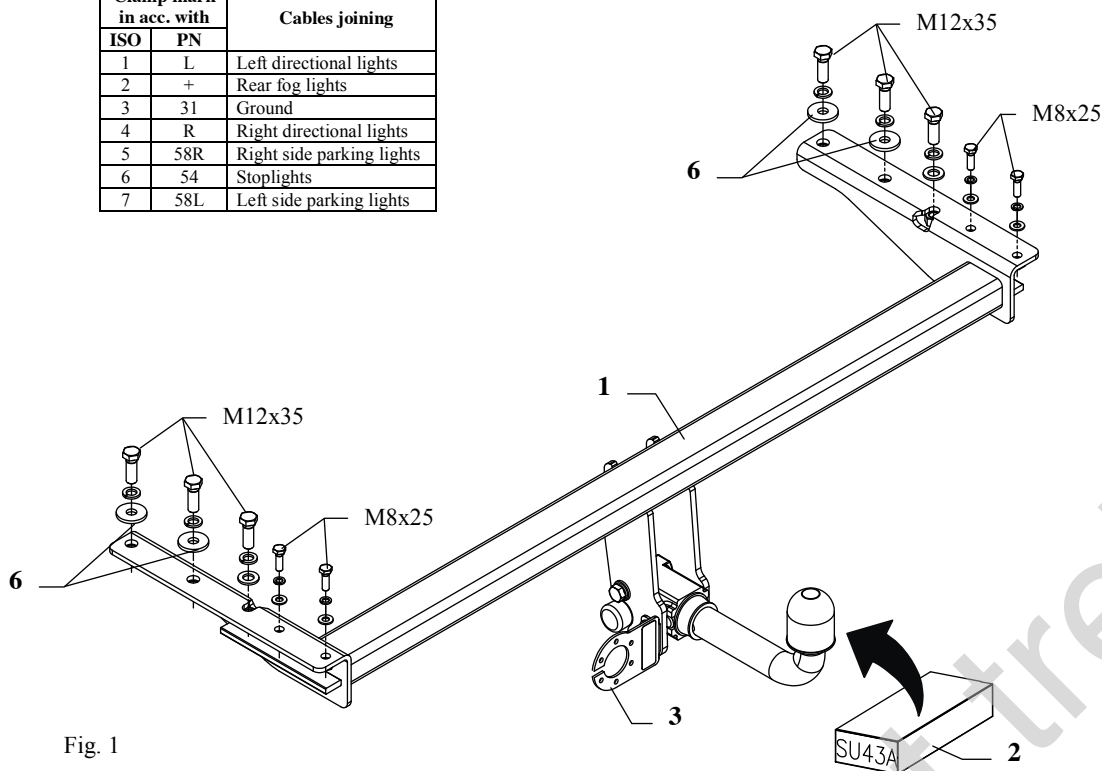
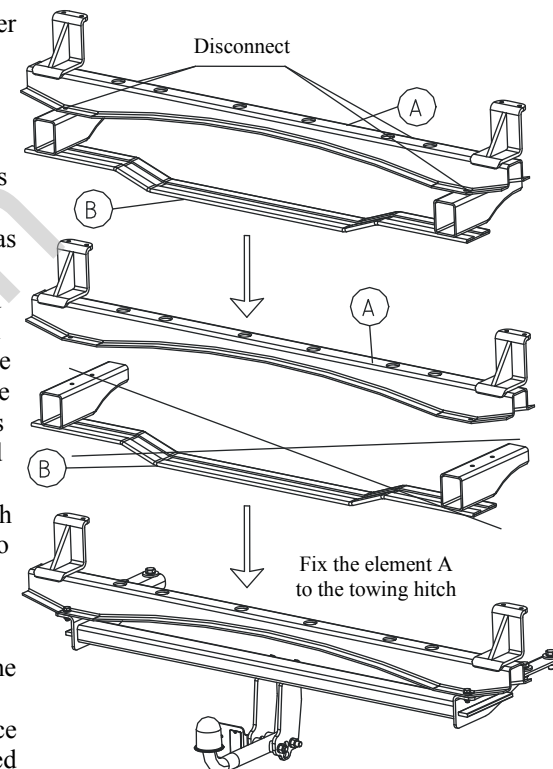

Fig. 1
Fig. 2
4. Disconnect the metal fulfilment as showed on the fig. 2.
5. Element B (see fig. 2) not used anymore, whereas element A (see fig. 2) one ought to fix to the main bar of the towing hitch (see fig. 1, pos. 1) using bolts M8x25mm (pos. 5) as showed on the fig. 2.
6. So prepared towing hitch fix with the bumper, which one ought to slip into chassis members, then fix using bolts M12x35mm (pos. 4) as showed on the fig.
8. Fix body of the automat and place tow-ball according to supplied instruction. Note! Remember to place socket plate (pos. 3) as shown on the drawing 1.